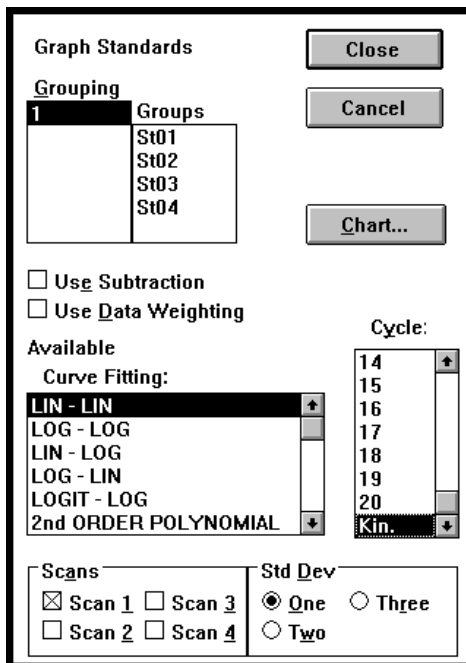

Figure 3-11 Graph Standards Dialog Box
1. Select **Standards** from the Graph menu (Alt, G, S). The Graph Standards dialog box appears (Figure 3-11).